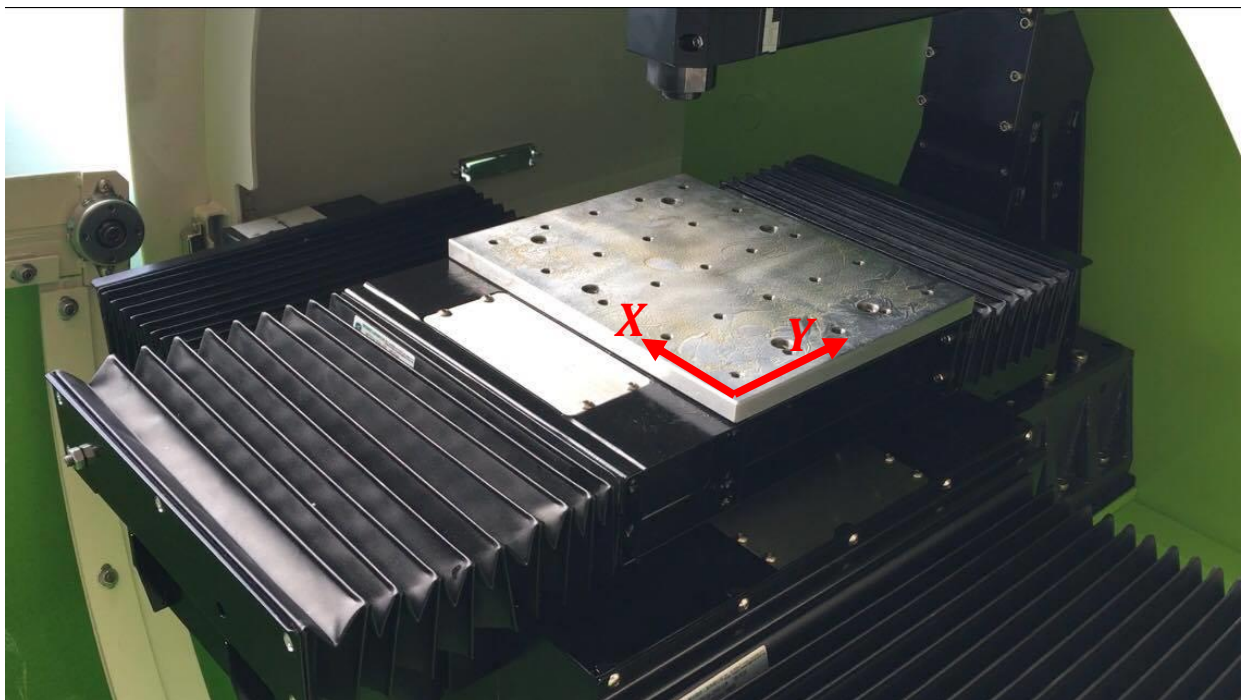

Figure 4: Ball Screw Driven XY Table
**C.2.** This section is for the experimental implementation of **your own trajectory on the real XY table**. A picture of the actual ball screw driven XY table is given in Figure 4. The maximum workspace for the XY table is  $100[\text{mm}] \times 100[\text{mm}]$ . Define a toolpath using **only** linear and circular interpolation techniques. Please follow these notes in designing your trajectory: